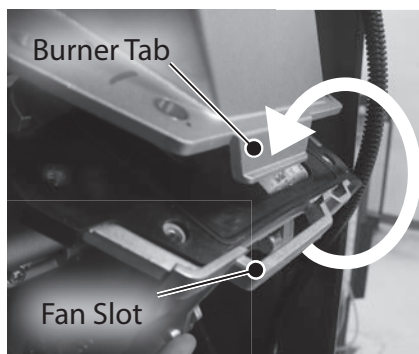

Figure 109 - Burner tab and fan slot
**NOTICE:** Confirm the burner tab engages the fan slot as shown in Figure 109.